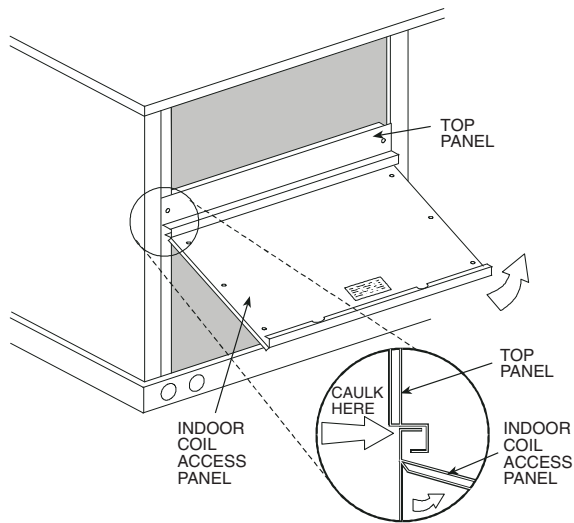

Fig. 17 — Indoor Coil Access Panel Relocation
1. The indoor coil access panel will be used as the top of the hood. Remove the screws along the sides and bottom of the indoor coil access panel. See Fig. 17.